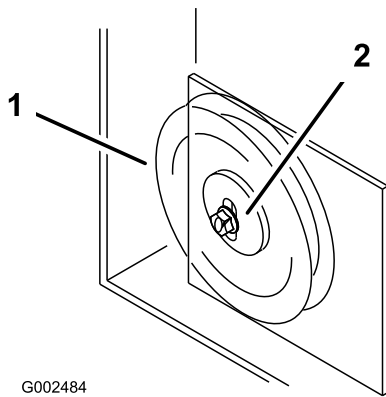

Figure 58
11. If the idler plate contacts the end of the adjustment slot and more belt tension is required, a small change to the right side fixed idler can create more belt tension adjustment (Figure 58).